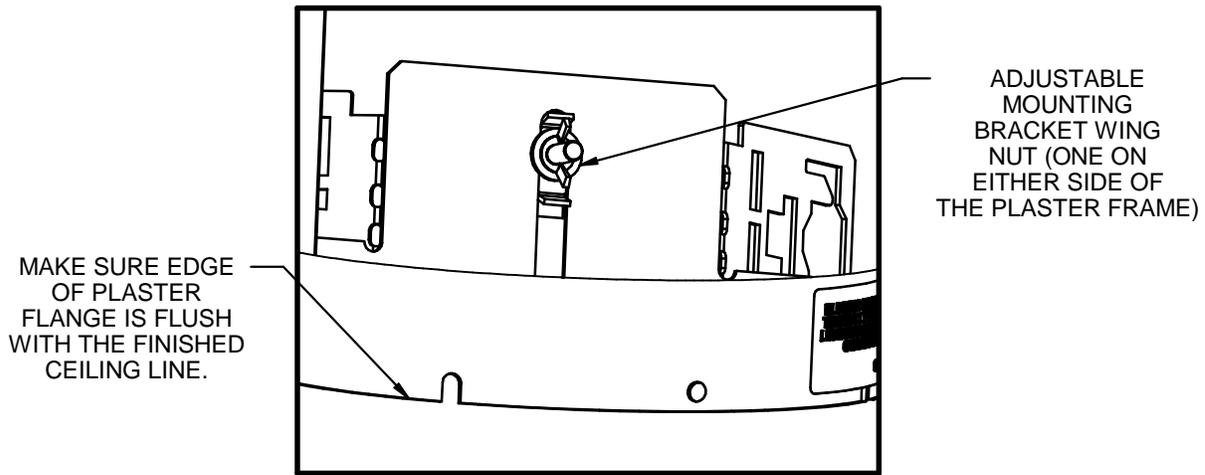
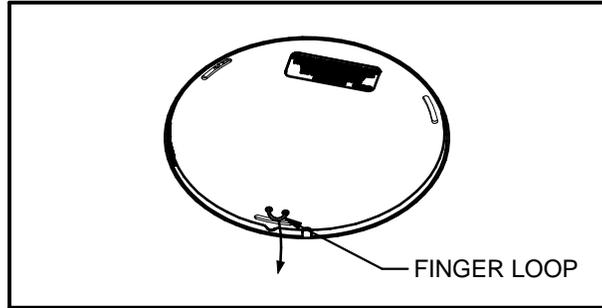

FIG. 2
FIG. 3
2. To adjust the fixture vertically, remove the clear protective cover (See FIG. 3). Once removed, loosen the wing nuts on the adjustable mounting brackets on either side of the fixture. **Important – adjust the fixture height so the bottom of the plaster flange is flush with the finished ceiling line** and in alignment with adjacent fixtures. (See FIG. 2) Once adjusted correctly, lock the adjustable mounting brackets by securely retightening both wing nuts. Then reinstall the clear protective cover. **Important – the clear protective cover is installed on the plaster frame from the factory. This cover is used to protect the LEDs during installation, and allows the fixture to be used for lighting (without the reflector) during the construction phase at the worksite. CAUTION: Keep this cover in place to protect the LEDs and only remove it to adjust fixture vertically and then reinstall it, or after all ceiling installation and finishing work is complete, and before installing the reflector (Step 6). Note: The reflector CANNOT be installed with this clear cover in place.**
5. After all ceiling installation and finishing work is complete, and before installing the reflector, remove the clear protective cover from the light engine by pulling down on the finger loop. (See **FIG. 3**) We recommend keeping this cover to protect the LEDs if future ceiling refinishing is ever needed, or discarded (please recycle – it is made of polycarbonate plastic)